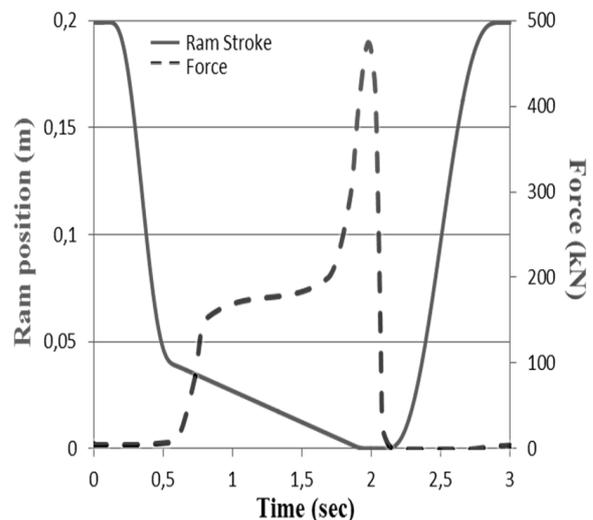
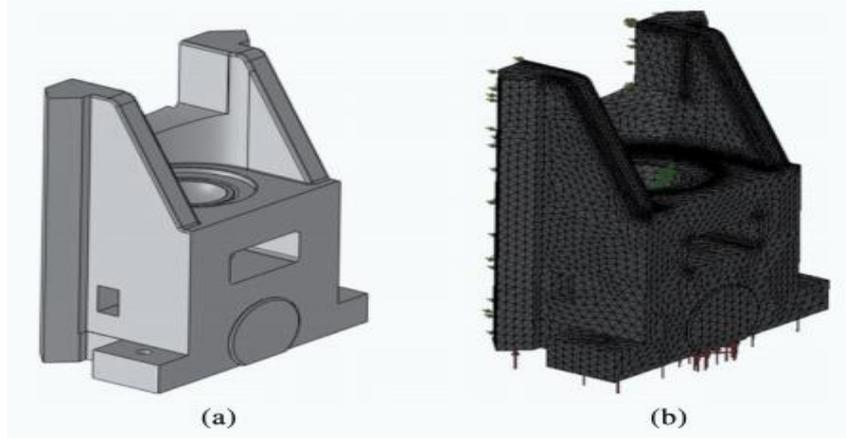

Figure 1. Motion Scenario
Figure 2. Part assembly a) design, b) design with mesh
Clear original figures should be used. Equations should be numbered consecutively throughout the paper and located at the right margin as in Equation (1) below. Figures and tables should be placed at the top or at the bottom of each column as in Figure 1 and Table 1. Large size figures or tables can be placed in one column as given Figure 2 at the top or at the bottom of each page.